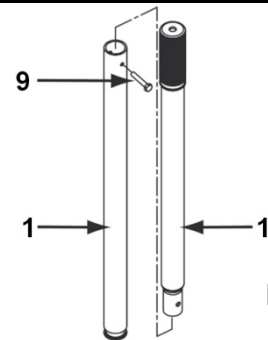

Fig. 2
2. Take note of Figure 2 for how to carry out this step. Remove the screw (9) found on one part of pumping lever (1). Fasten the pumping lever pieces 1 and 2 in order to align the holes on both pieces with each other. Put the screw back in and tighten it.